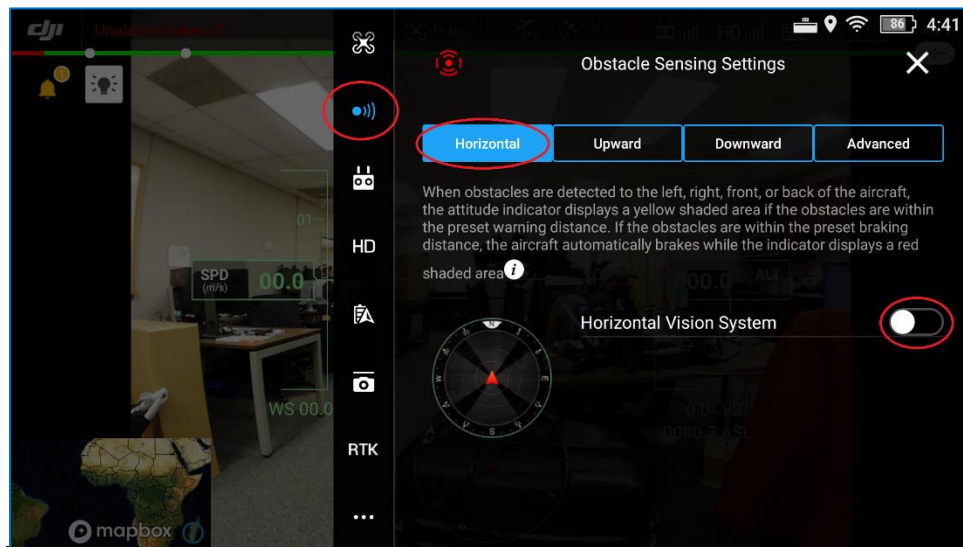

Figure 18. DJI Pilot - Obstacle sensing settings menu.
4. Tap each tab for Upward, and Downward tap the toggle button off for each category. (Figure 18)